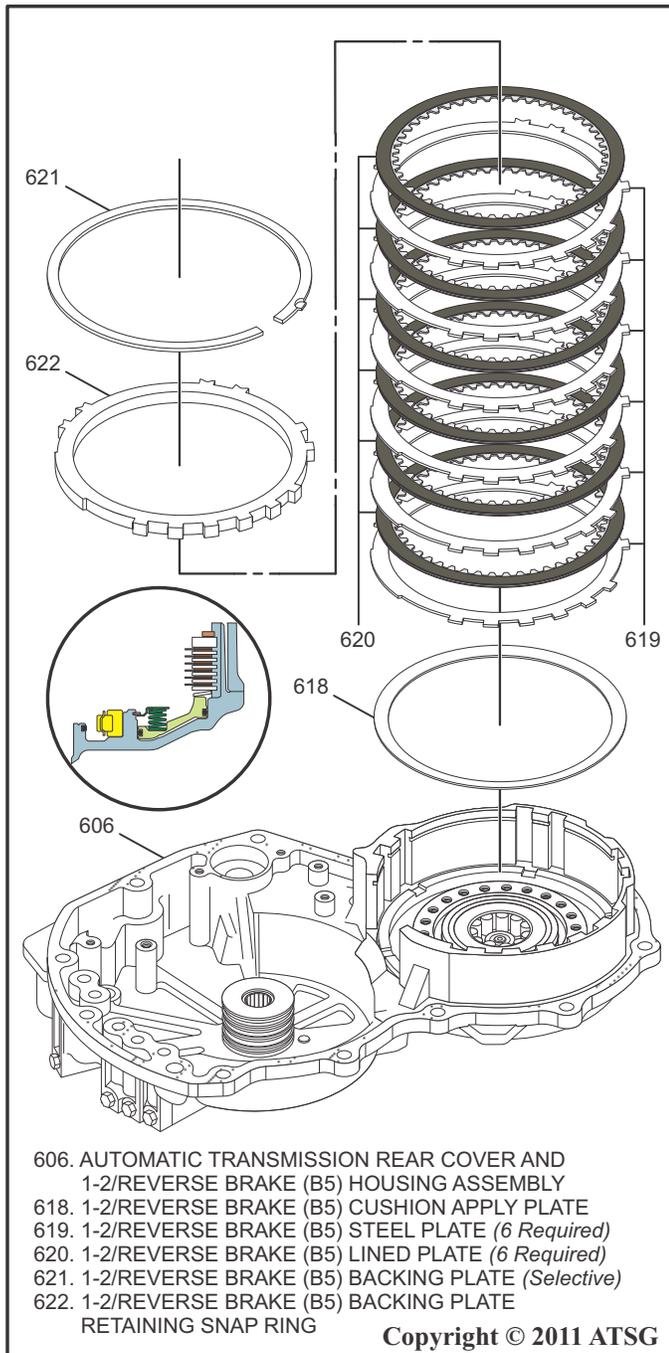

Figure 132
14. Install the 1-2/Reverse Brake (B5) Cushion Apply Plate into the housing as shown in Figure 132.
15. Starting with a Steel Plate and alternating Steel Plates and Lined Plates, install the 1-2/Reverse Brake (B5) Steel and Lined Plates into the housing as shown in Figure 132.
16. Install the 1-2/Reverse Brake (B5) Backing Plate as shown in Figure 132.
17. Install the 1-2/Reverse Brake (B5) Backing Plate Retaining Snap Ring as indicated in Figure 132.